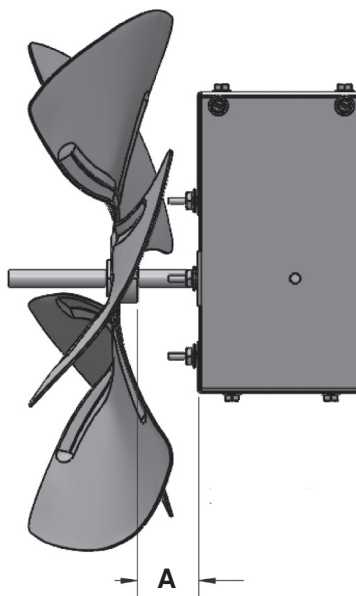

Figure 6. Fan and Motor Spacing (Refer to Table 5)
7. Ensure that fan is in proper position on shaft (see Figure 6) and setscrew is tightened in accordance with torque listed in Table 5.
*See Figure 6 .